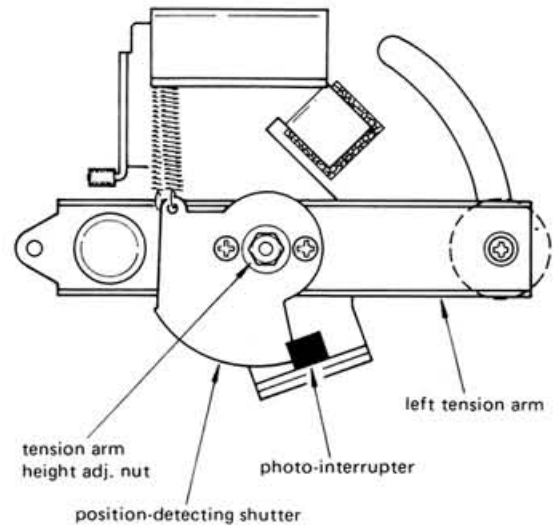

Fig. 2-11
3. Stop left (right) inertia roller's rotation by hand. Adjust by turning the left (right) tension arm height adjusting nut (refer to Fig. 2-11) so that the tape moves in the center of the inertia roller.